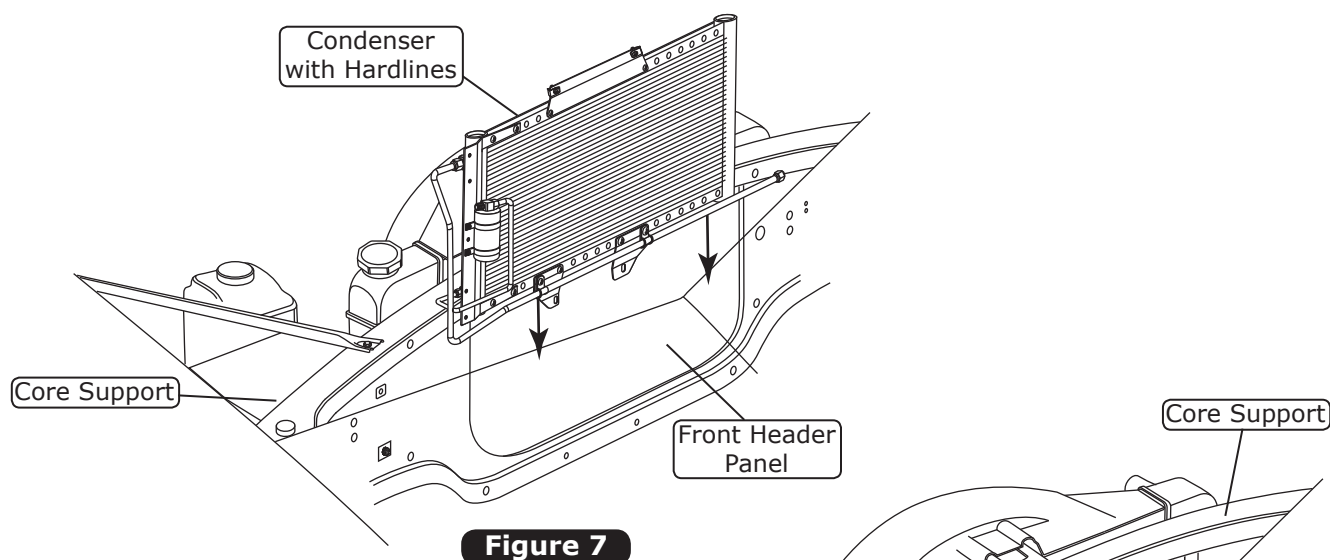

Figure 7
1. Lower the condenser/hardline assembly between the front side of the core support and the front header panel (See Figures 7 & 8, below). **NOTE: The top mounting bracket attaches to the back side of the core support.**